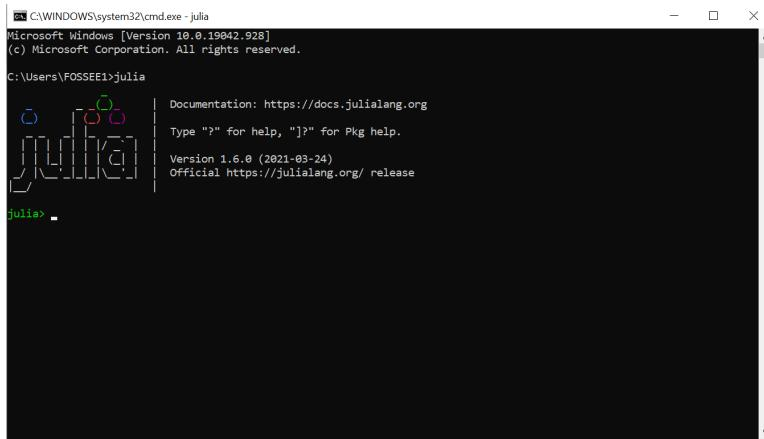

Figure 3.10: Windows command prompt to launch Julia REPL
2. In the Command Prompt, type `julia` and press Enter. It should launch Julia in an interactive session (also known as a read-eval-print loop or "REPL"), as shown in Fig. 3.10. When run in interactive mode, Julia displays a banner and prompts the user for input. By default, Julia REPL appears in Julian prompt. It is the default mode of operation; each new line initially starts with `julia>`, as shown in Fig. 3.10. It is here that you can enter Julia expressions. Hitting return or Enter after a complete expression has been entered will evaluate the entry and show the result of the last expression.
We can also check the status of this package to verify whether it has been installed successfully or not. For this, we need to get back to Julia REPL. Inside Pkg REPL, press backspace. The moment you press backspace, you get back to Julia REPL, as shown in Fig. 3.10. Now, type using Pkg and press Enter. This command will not generate any output. Now type Pkg.status() and press Enter. It should display the list of packages installed in Julia's environment. Please make sure that SerialPorts is present in the list of packages being shown. To exit the interactive session, type CTRL+D or type exit().